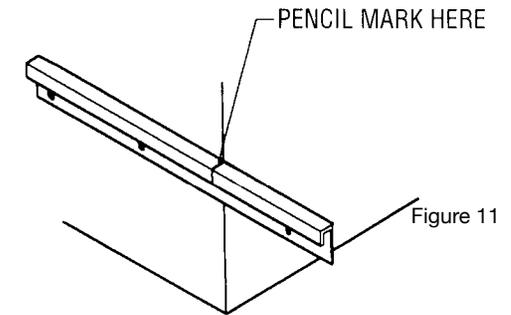

Figure 11
1. Use pencil to make a mark at return on wall leg and room leg (see figure 11).